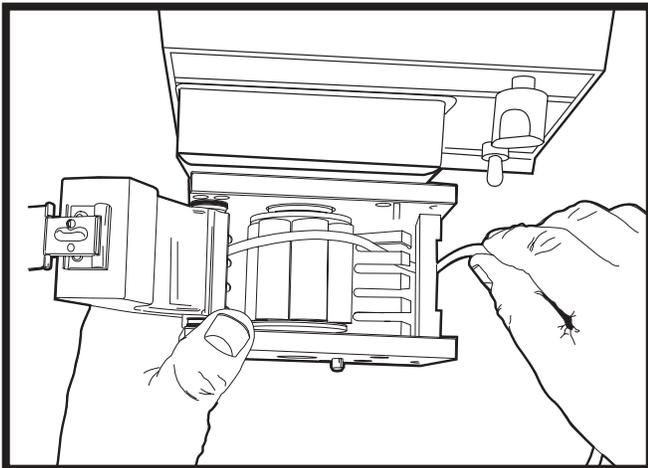

Figure 8, Secure tubing stop collar in corresponding slot.
4. Making sure not to twist tubing, lightly stretch it across rollers to secure tubing stop collar in corresponding slot on the opposite end of pump head (latch side) (Figure 8).